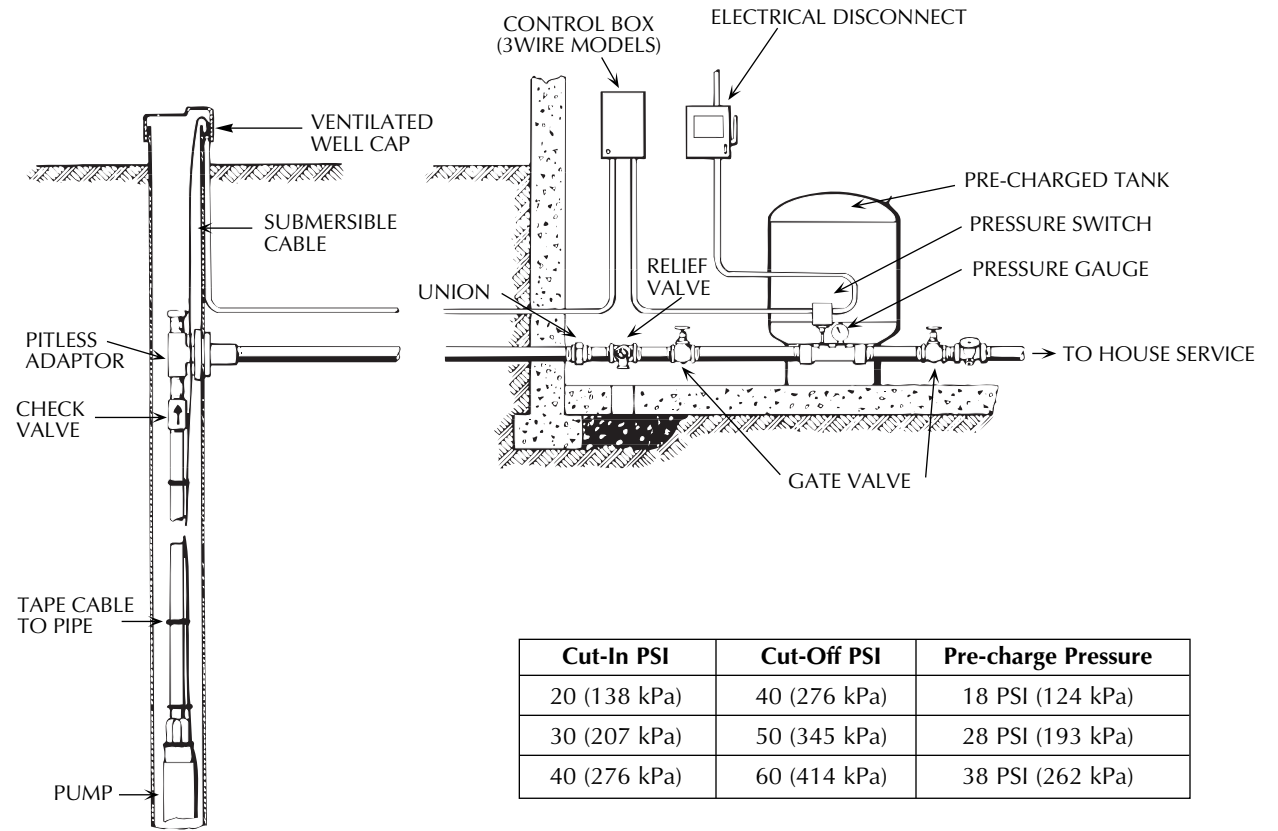

FIGURE 12 – Typical Submersible Installation with Pre-charged Tank Installation
9. Remove gate valve for permanent installation near tank (see Figures 12 and 13, Pages 8 and 9).
See Figure 12, Page 8 for piping connections to pre-charged pressure tank.